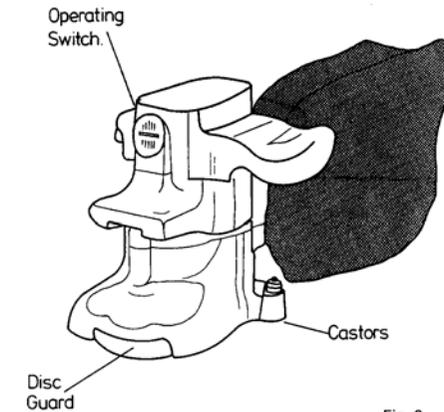

Fig. 2
1. Tilt the machine back on its castors and switch "ON" (Fig. 2).
2. Lower the machine so that the disc is in contact with the floor and keep moving the machine back and forth with a SLOW SWEEPING movement. The disc guard (Fig. 2) may be "ROLLED" along the skirting board to enable the sanding action to be taken to the edge of the floor area.